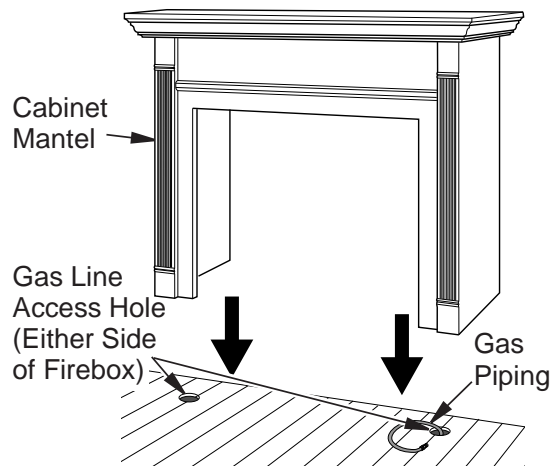

Figure 11 - Installing Cabinet Mantel (Mantel May Vary From Illustration)
2. Install gas piping to firebox location. See Gas Line Installation on **Page 16**. You may have to cut an access hole in the floor or wall to run gas line to firebox. Make sure to locate access hole so cabinet mantel will cover it when installed (see **Figure 11**).